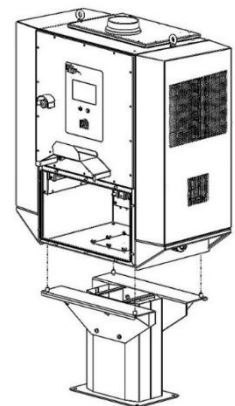

Figure 11 - Charger mounting holes being lowered onto four pedestal studs
3. Lower charger's mounting holes onto four pedestal studs (Figure 11).